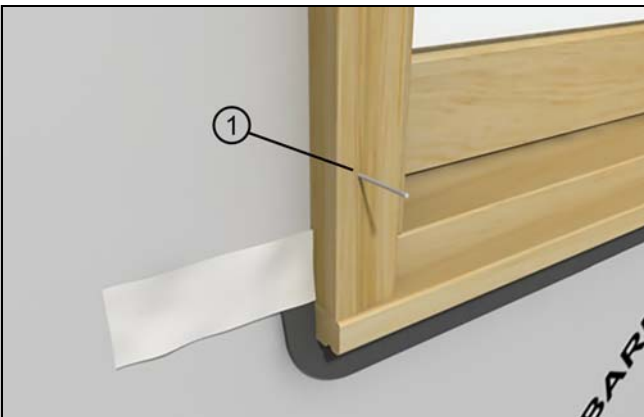

Figure 15 Fastening lower corner
3. From the interior, shim about 4"(102) from the bottom to square the unit in the opening. Take diagonal measurements of the window. When equal, the window is square in the opening. Adjust the shims until the unit is square in the opening. See Figure 15.
4. Once square fasten the lower corners and recheck for square. See Figure 15.